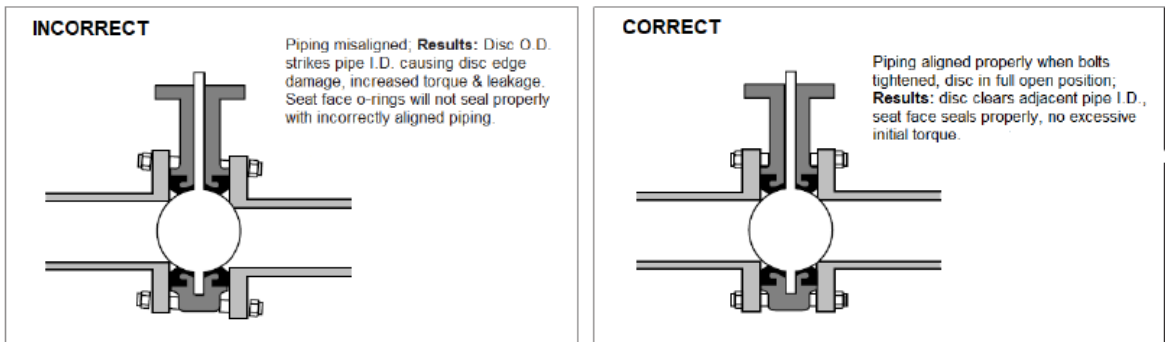

FIG.7. VALVE ALIGNMENT
6.2.3. Before completing the tightening of any bolts, the valve should be centred between the flanges. Refer to Fig.7. Do not attempt to correct the line misalignment by means of flange bolt tightening.